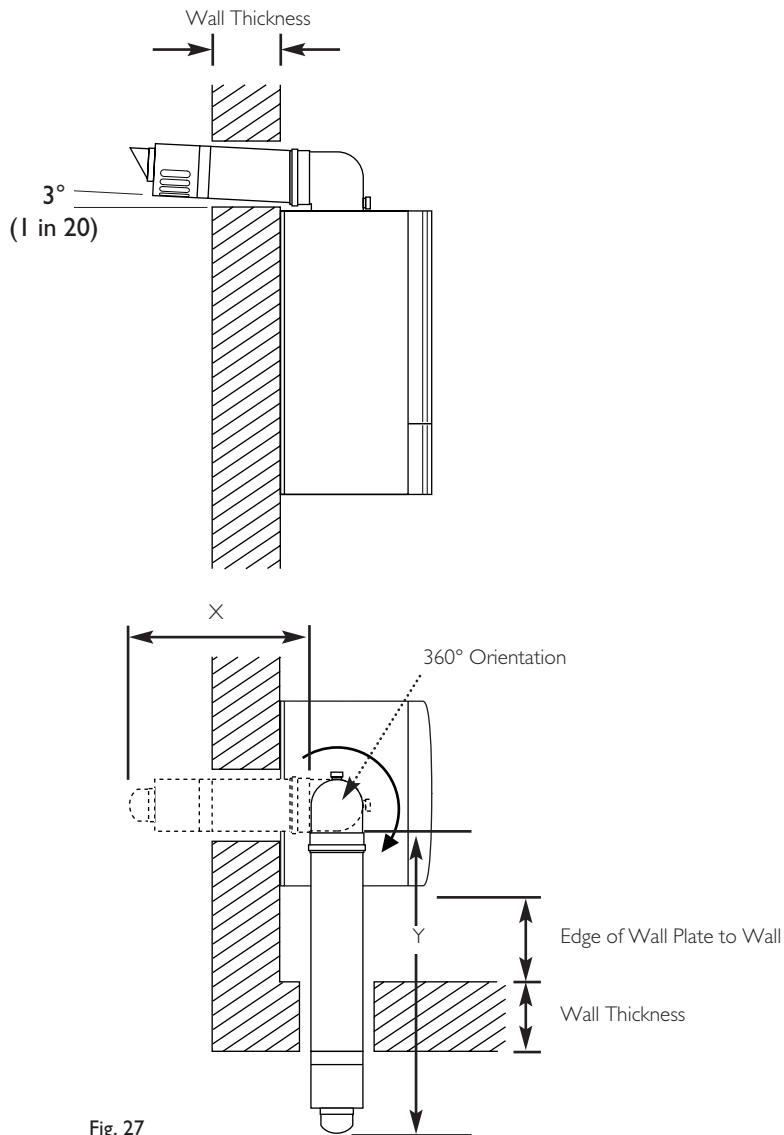

Fig. 27
2. **For rear exit** - measure the wall thickness (Fig. 27) and to this dimension add 201mm. This dimension to be known as (X).
4. **For left hand exit** - measure the distance from the edge of the support bracket to the inner face of the wall (Fig. 27) and to this dimension add the wall thickness + 268mm. This dimension to be known as (Y).